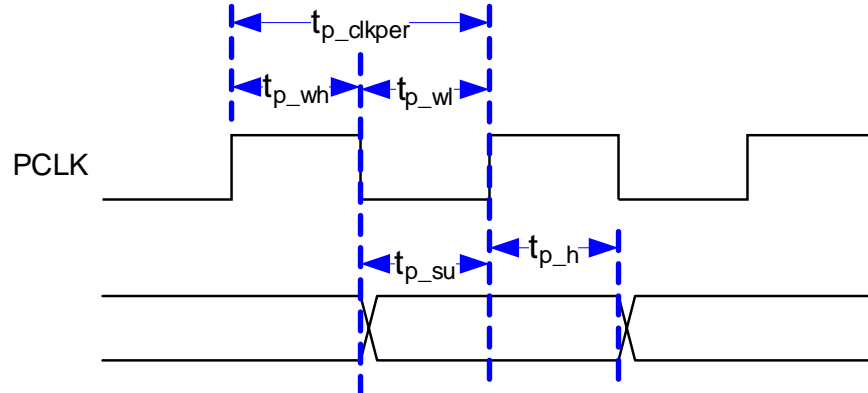

Figure 6. Parallel and BT.656 I/F General Timing
- (1) Clock jitter (in ns) should be calculated using this formula: $\text{Jitter} = (1 / f_{\text{clock}} - 28.35 \text{ ns})$. Setup and hold times must be met during clock jitter.
- (2) See Figure 6.
(1) The BT.656 I/F accepts 8-bit per color, 4:2:2 YCb/Cr data encoded per the industry standard via PDATA(7:0) on the active edge of PCLK (that is, programmable) as shown in Figure 6.
(2) Clock jitter should be calculated using this formula: Jitter = $(1/f_{\text{clock}} - 28.35 \text{ ns})$. Setup and hold times must be met during clock jitter.